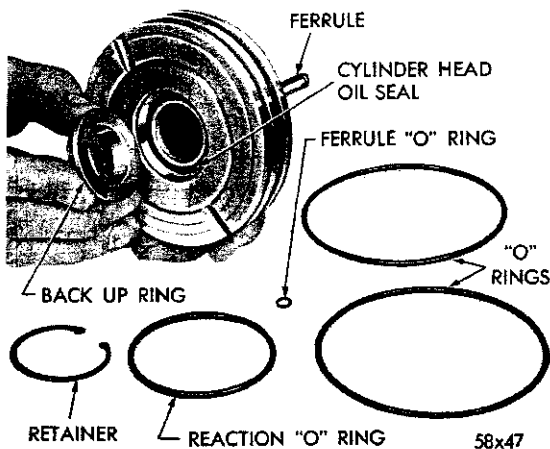

Fig. 36—Removing the Cylinder Head Seal
(3) Inspect the worm shaft seal in the cylinder head counterbore for possible damage; replace the cylinder head seal if necessary (Fig. 36).